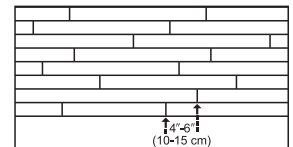

Figure 4
- Be attentive to staggering the ends of the boards at least 6" (15 cm), when possible, in adjacent rows (Figure 4). This will help ensure a more favorable overall appearance of the floor.
- Check for a tight fit between all edges and ends of each plank. End-joints of adjacent rows should be staggered 6" (15 cm) when possible to ensure a more favorable overall appearance (Figure 4).